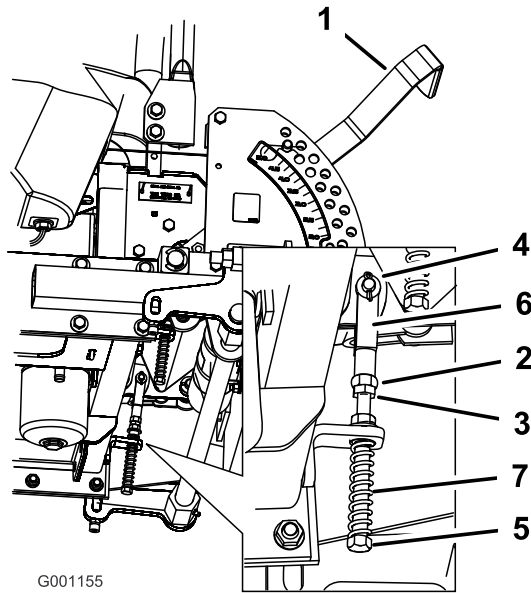

Figure 85
8. If adjustment is needed, loosen the nut and jam nut against the yoke (Figure 85).
- Apply slight rearward pressure on the motion-control lever, turn the head of the adjustment bolt in the appropriate direction until the control lever is centered in the NEUTRAL-LOCK position (Figure 85).
- Tighten the nut and jam nut (Figure 85).